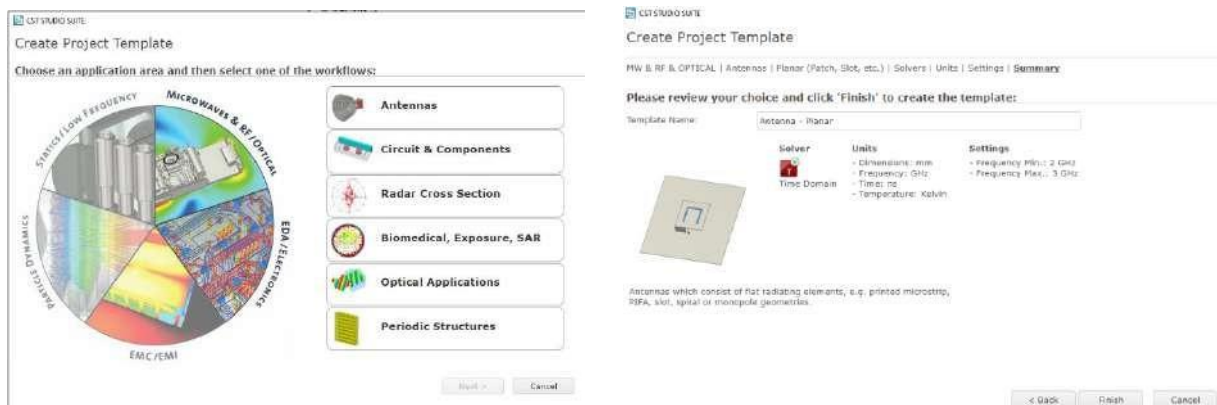

Fig. 5. (a)New template wizard (b)Summary of the wizard.
2. Click 'New Template'. A window called 'Create Project Template' will appear (Fig. 5).